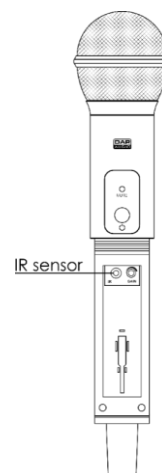

Fig. 15
- 06) Place the microphone's **IR sensor (41)** close to the **display (09)** to pair the speaker with the microphone (Fig. 15).